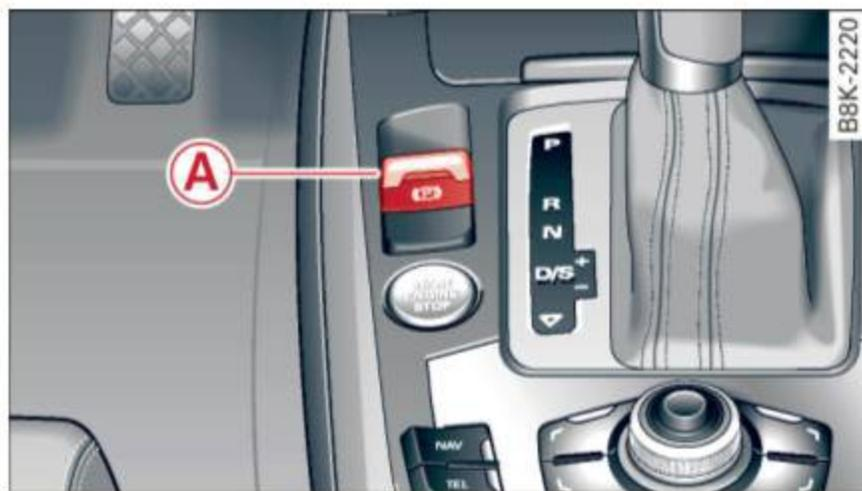

Fig. 81 Center console: Parking brake
- ▶ Pull on the switch **(A)** ⇒ *fig. 81* to apply the parking brake. The indicator lights in the switch
- ▶ Pull the switch  ⇒ page 77, fig. 81 to set the parking brake.
- ▶ Pull the switch  ⇒ page 77, fig. 81 to apply the parking brake.
- ▶ Keep the switch  ⇒ page 77, fig. 81 pulled and depress the accelerator. The parking brake stays applied and prevents the vehicle from rolling backward.
- ▶ In an emergency, pull the switch  ⇒ page 77, fig. 81 and continue to pull it to slow your vehicle down with the parking brake.